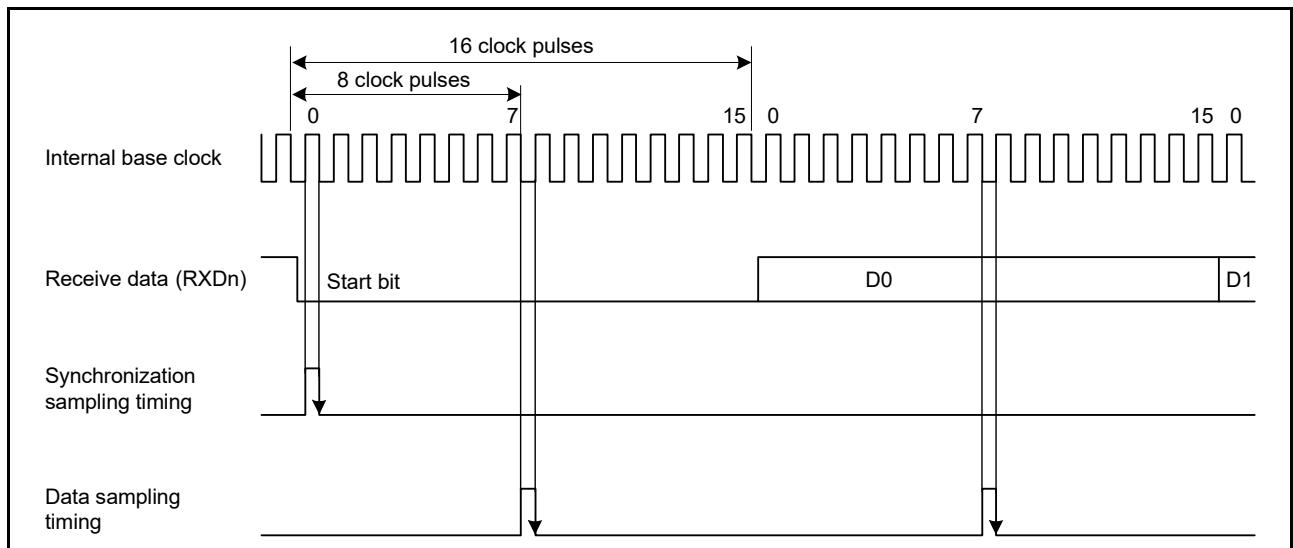

Figure 27.3 Receive data sampling timing in asynchronous mode
Because receive data is sampled on the rising edge of the 8th pulse^{*1} of the base clock, data is latched at the middle of each bit, as shown in Figure 27.3. The reception margin in asynchronous mode is determined by the following formula (1):